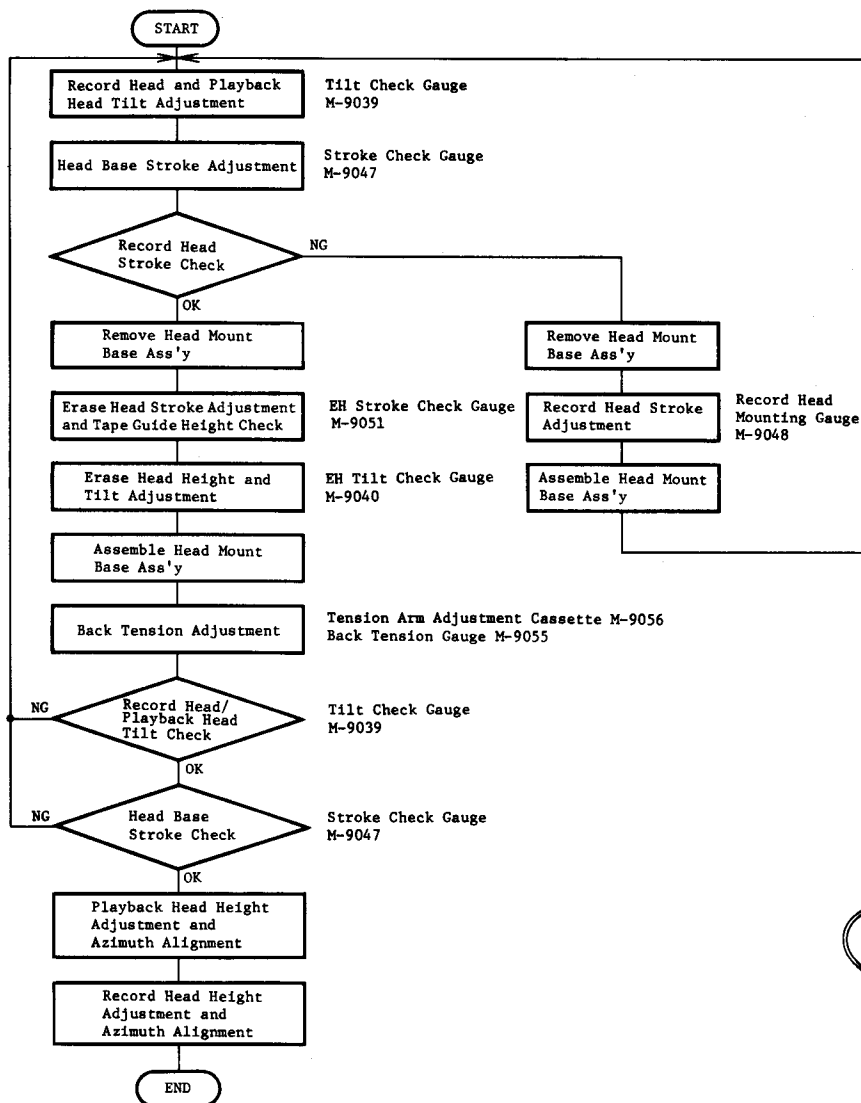
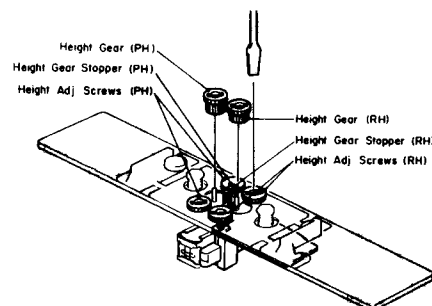

Fig. 2.2
Fig. 2.3
Note: On items 2.3 — 2.9, refer to Fig. 2.2 flow chart. Refer to Figs. 2.3 and 2.4.
- (1) Load a Tilt Check Gauge M-9039 (DA09039A) in the cassette deck.
- (2) Clip the grounding terminal of the Tilt Check Gauge with one end of the cord with clip, and the chassis of the cassette deck with the other end.
- (3) Remove both of the Height Gears.
- (4) Set the cassette deck in Play mode. Check to insure whether the Beacons Playback Head "Upper" or "Lower" and Record Head "Upper" or "Lower" are illuminating. In order not to give damages onto the head surfaces, push both of slide knobs of the Gauge to the direction of arrow marks, then return them to the original place to be in contact with record head and playback head surfaces after Play mode is securely locked.
- (5) Check to insure freedom from contact between the Gauge and pad lifter.
- (6) Beacon Playback Head "Lower" will light on when height adjustment screw (P) turned clockwise but Playback Head "Upper" when counterclockwise. Adjust so that both "Upper" and "Lower" will light on even when you move the slide knob to the direction of an arrow mark and then return it to the original place.
- (7) Same procedures will apply to the Beacons Record Head "Upper" and "Lower", except for the height adjustment screw (R).
- (8) Set the cassette deck in Stop mode and fit both of the serrated Height Gears. Then set the cassette deck again in Play mode and insure all of the 4 Beacons are illuminating. If not, (3) through (7) will have to be repeated till satisfactory results are obtained.